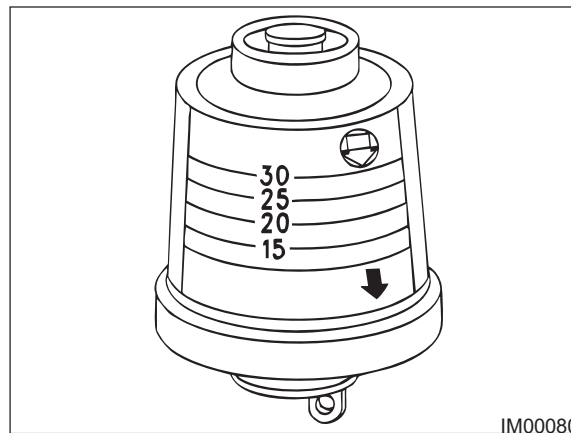

Fig: 11.18 - Service Indicator
2. Observe the Service Indicator (Fig: 11.18). The air cleaner element shall be cleaned or the air cleaner element shall be replaced when one of the following conditions occur: